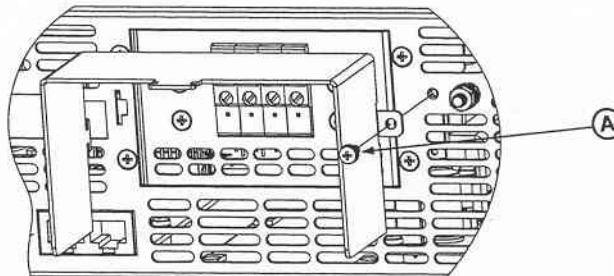

Fig.3-9: Shield assembly
4. Loosen the two chassis screws marked "A" halfway as shown in Fig.3-9.
5. Assemble the protective shield to the chassis and tighten the two screws to fix the shield to the chassis (see Fig.3-9). Screws tightening torque: 4.8-5.3 Lb-inch. (0.5 - 0.6Nm)